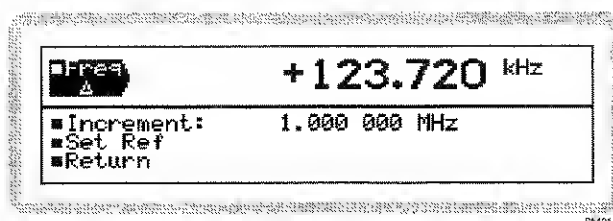

Fig. 3-20 Carrier shift and increment
- 2 Press △ to display the screen (Fig. 3-20).